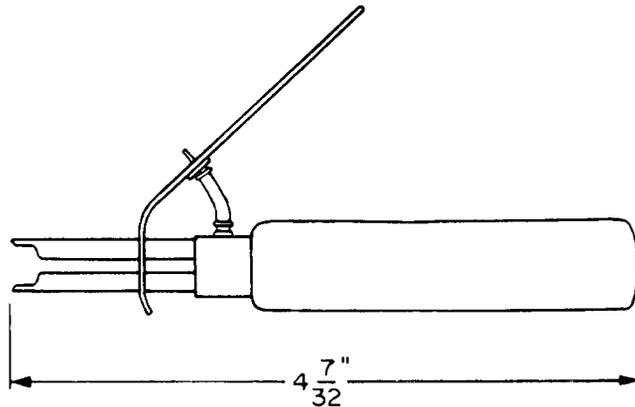

Fig. 5—553C Lamp Extractor Tool
2.05 **553C:** The 553C lamp extractor tool (Fig. 5) is used in removing No. 2 telegraph service board lamps.